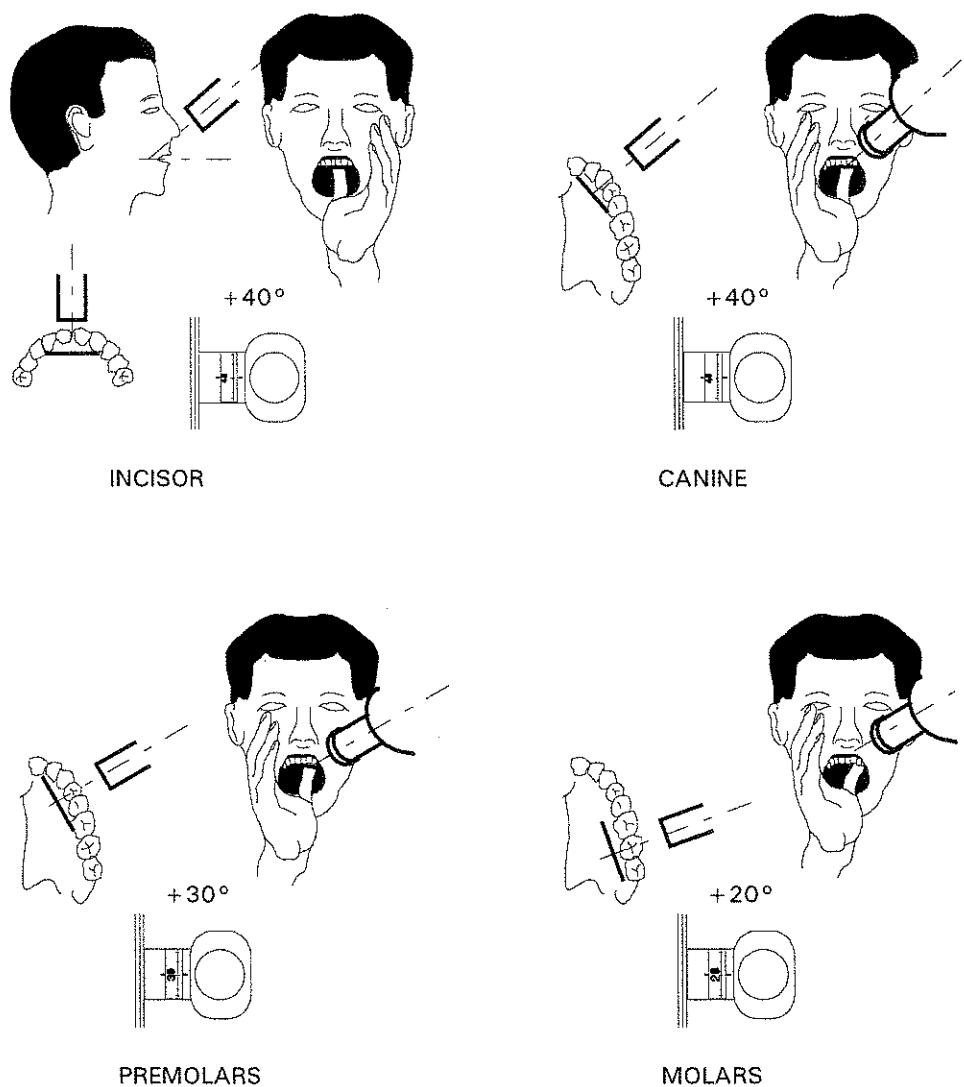
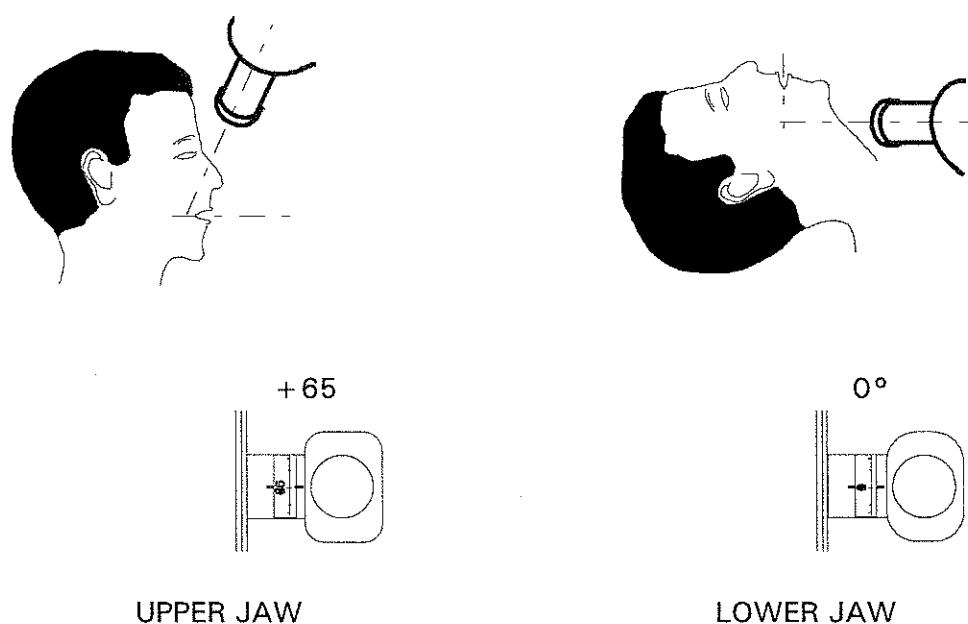
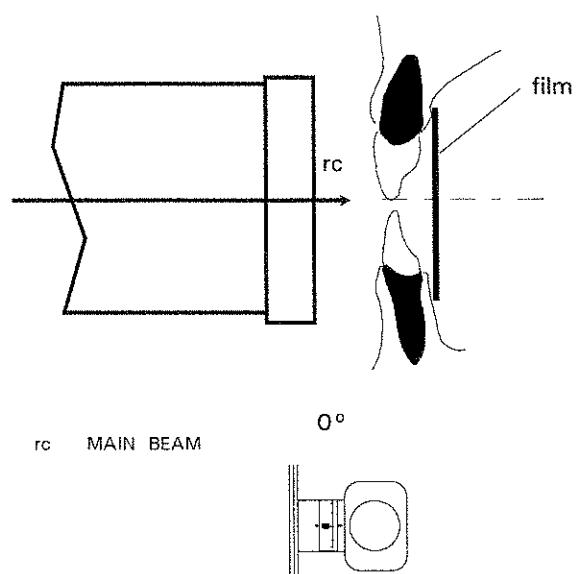

Figure 5
Figure 6
Figure 7
- a) Arrange Tubehead according to an angle suitable for type of exposure and positioning required (see Figure 4, Figure 5, Figure 6 and Figure 7 from Page 21 and following)
- c) Depress the X-Ray button "7" (Fig. 7 page 16) keeping it depressed throughout the exposure.